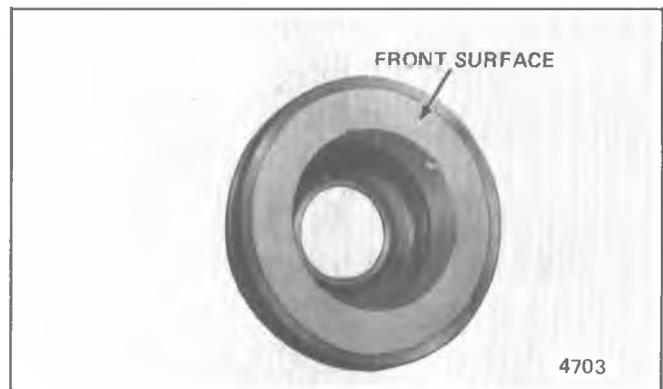

Fig. 1D-89 R-4 Clutch Coil Asm.
3. Slide the pulley rim off the Rotor and Hub assembly. The Pulley Rim and the Clutch Coil (Fig. 1D-89) are replaceable at this point.